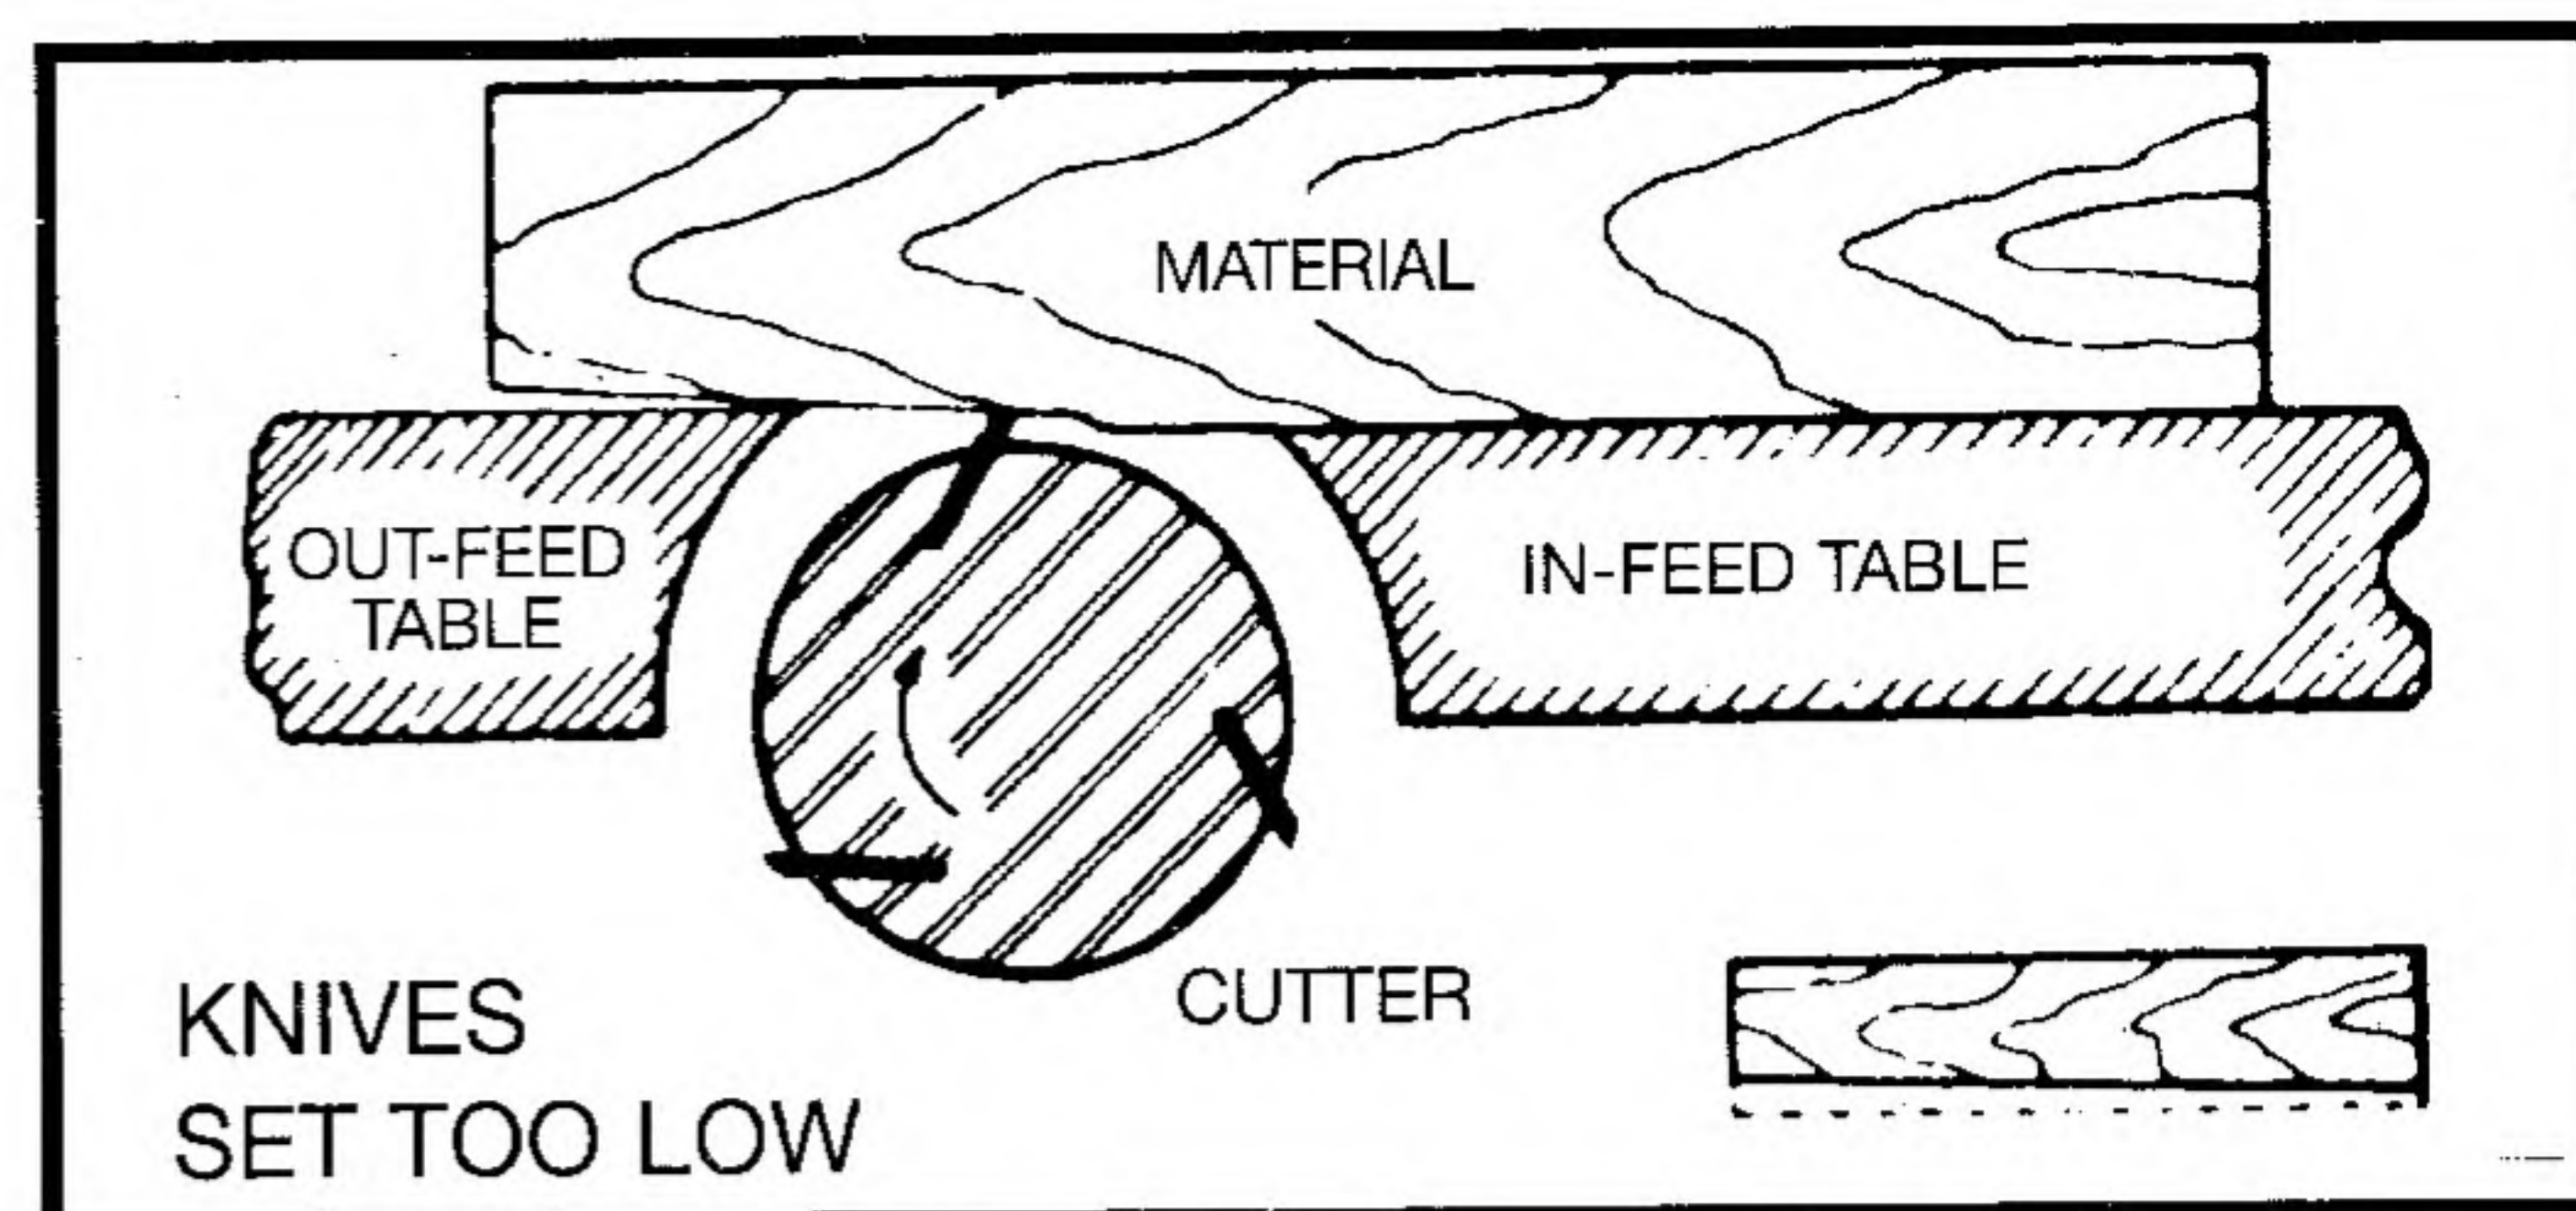

Fig. 32
6. If the knives are set too low, the result will be as shown in Fig. 32, and the finished surface will be curved.